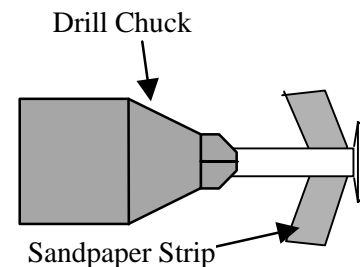

FIGURE 14
3. If the axle is scarred from the grinding step, start with a strip of 400 grit wet/dry paper. Dip the paper in water and sand the nail and the inside of the nail head (see Figure 14).